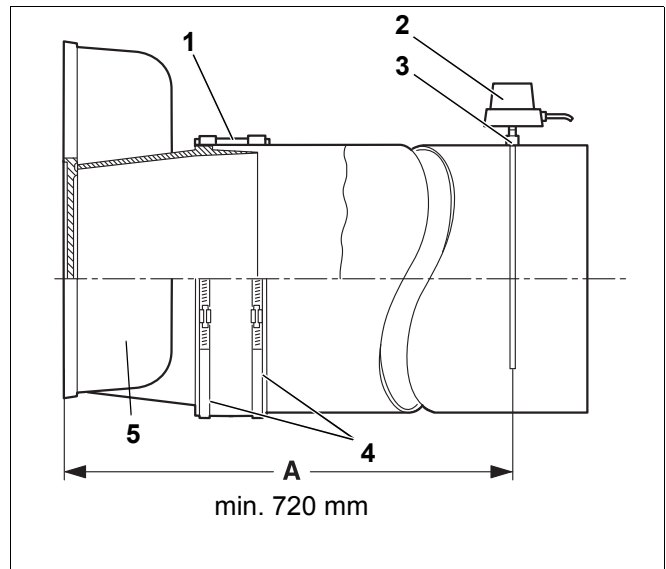

Fig. 29 Flue gas pipe installation
We recommend you use a flue gas pipe sealing collar (Fig. 29, [1]).
- Place the jubilee clips (Fig. 29, [4]) over the flue gas pipe sealing collar. One of the jubilee clips must clamp on the coupling of the flue gas collector and the other onto the flue gas pipe.
- Weld the coupling (Fig. 29, [3]) at a distance of $2 \times$ flue gas pipe diameter (A) – min. 720 mm – from the flue gas collector into the flue gas pipe.
- Install the flue gas temperature sensor (Fig. 29, [2]) in accordance with separate installation instructions.